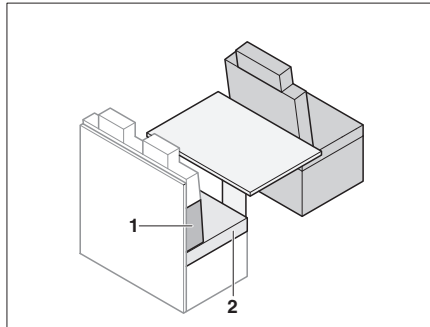

Fig. 184 Prior to conversion
- Remove the seat cushion (Fig. 184,2).